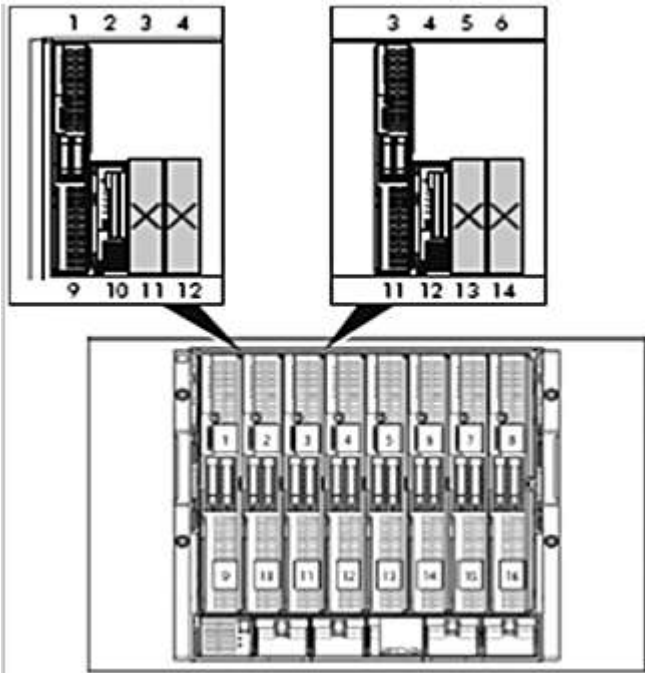

Figure 2 Installing a single expansion blade adjacent to a full-height, single-wide server blade.
- One full-height, single-wide partner server blade supports one or two expansion blades. Figure 2 shows installation of one expansion blade.